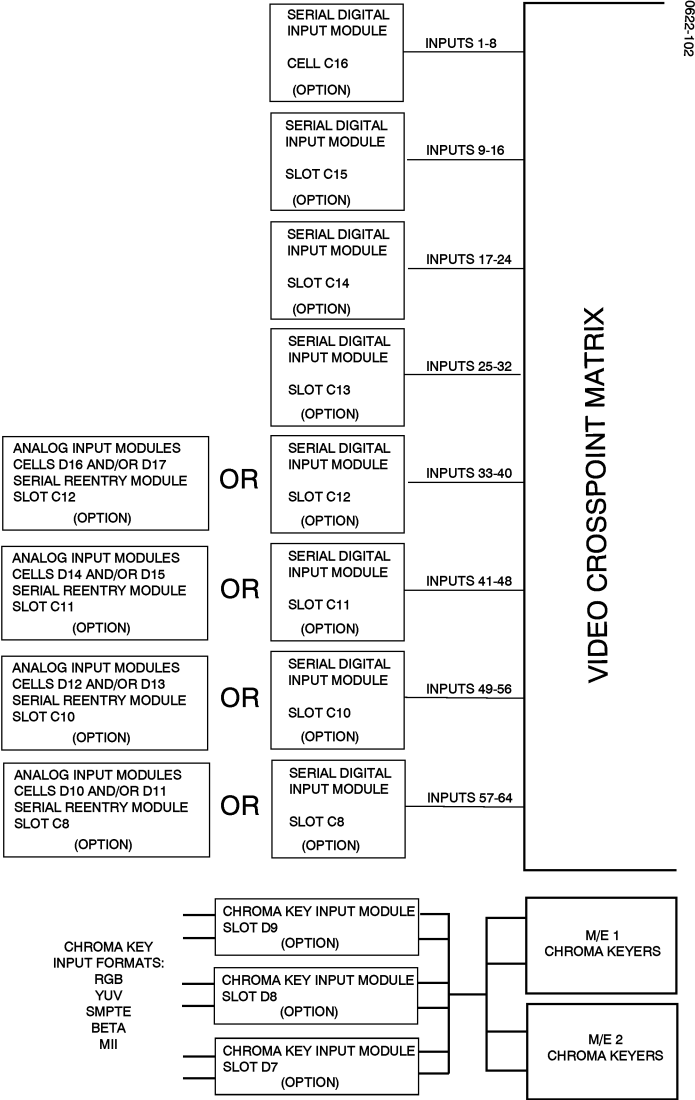

Figure 1-4. Video and Key Inputs
- Analog Component Module – each optional Analog Component Module provides 2 analog component video inputs (RGB, YUV, Beta, or MII) and 2 analog Key inputs. Up to 8 Analog Component Modules can be installed. Every Analog Component Module is associated with a Serial Reentry Module which is included in the option set. Refer to Figure 1-4.